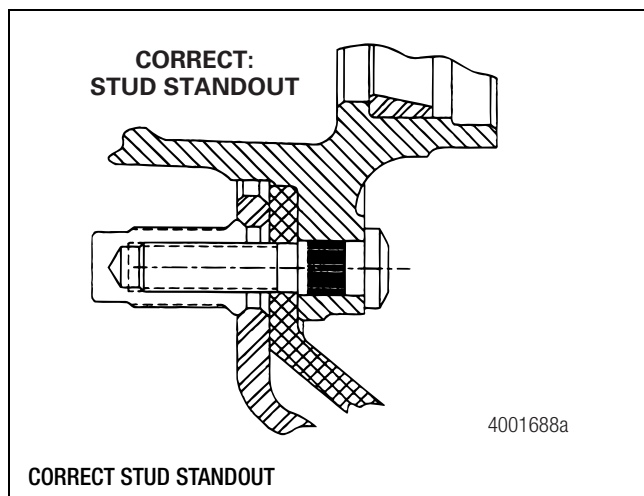

Figure 5.2
- A. Figure 5.2 shows correct standout.